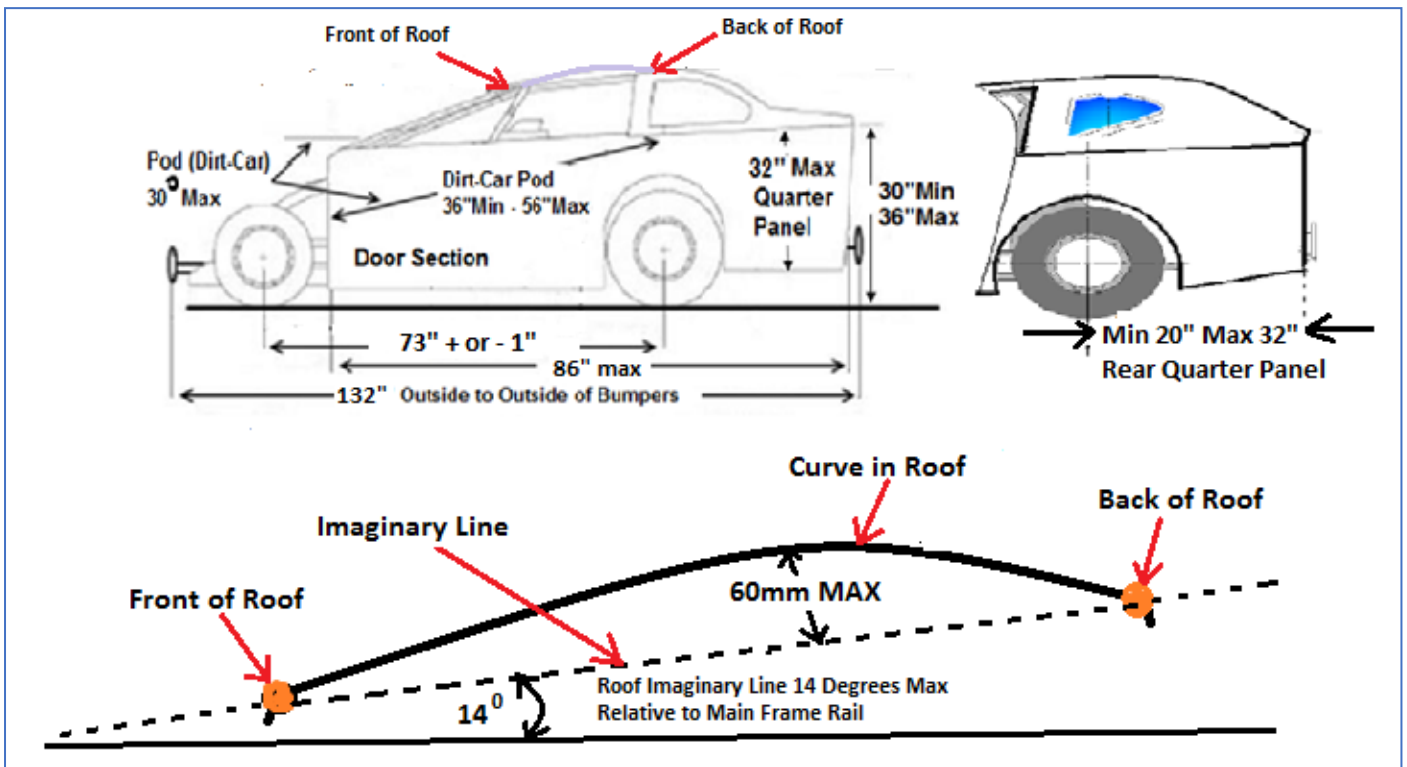

Figure 3
- 6.9** Wheelbase 73 inches +or- 1 inch. This means the wheelbase must not exceed 74 inches or be less than 72 inches (NO TOLERANCE). The wheelbase is the straight-line distance (parallel to the chassis rail) between the centres of the front and rear hubs with the front and rear tyres aligned parallel with each other on the side being measured. (*Figure 3 & 4*).
- 7.7 Front of door section to the rear most point of the quarter panel must not exceed 86 inches *(Figure 3)*.
- 7.8 Side height of the top of rear quarter panel (deck lid) to the ground --- 30 inches min, 36 inches max (No tolerance) *(Figure 3)*.
- 7.9 Max height of quarter panel 32 inches (No tolerance) *(Figure 3)*.
- 7.12 Rear quarter length from centre of rear hub to rear of quarter panel must not exceed 20 inches min to 32 inches max (No tolerance) *(Figure 3)*.
9.2 The top face of the roof panel must be transversely (across) flat in design. An imaginary line linking the front edge and rear edge of the roof panel must not exceed 14 degrees angle of rake relative to the frame rail (*Figure 3*). A longitudinally convex shaped roof is allowed with the curvature not to exceed a 60mm perpendicular distance from any point on the curve to the imaginary line linking the front edge and rear edge of the roof panel (*Figure 3*). No roof panel is to be concave in design. No upward facing deflectors of any type on upper side of the roof panel including front and rear edges.